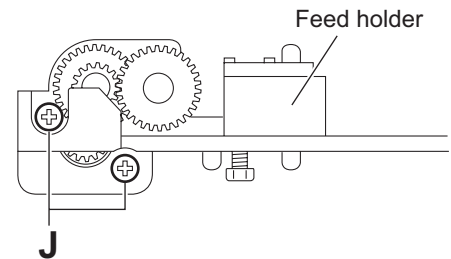

Fig.12
- From the side of the feed holder, remove the two screws **J** attaching the feed motor. (See Fig.12.)